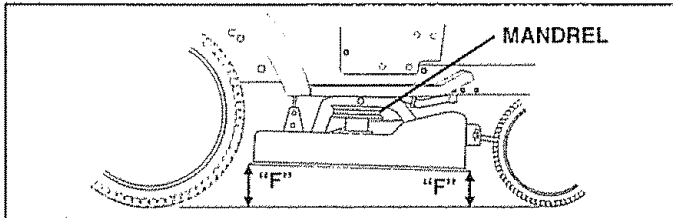

FIG. 22
**FRONT-TO-BACK ADJUSTMENT** (See Figs. 22 and 23) - **IMPORTANT: DECK MUST BE LEVEL SIDE-TO-SIDE. IF THE FOLLOWING FRONT-TO-BACK ADJUSTMENT IS NECESSARY, BE SURE TO ADJUST BOTH FRONT LINKS EQUALLY SO MOWER WILL STAY LEVEL SIDE-TO-SIDE.** To obtain the best cutting results, the mower housing should be adjusted so the front is approximately 1/8" to 1/2" lower than the rear when the mower is in its highest position.